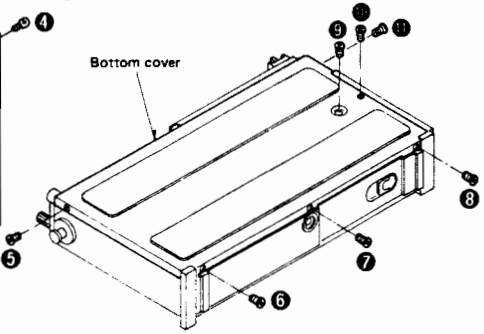

Fig. 5
2. Unscrew the 7 screws (⑤ ~ ⑪) as shown in Fig. 5.